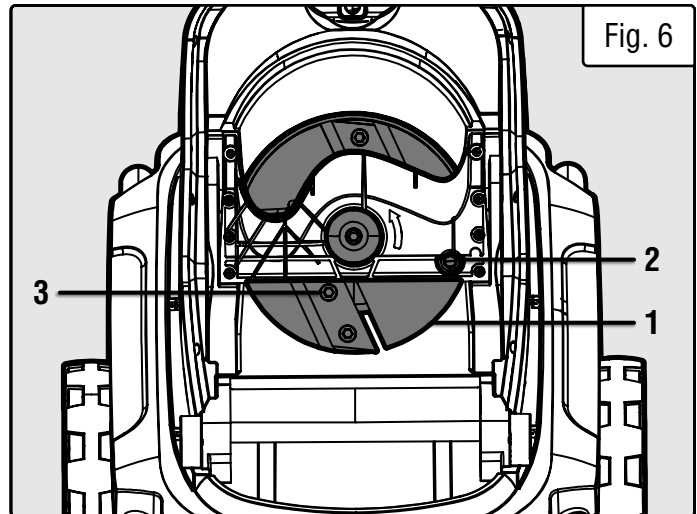

Fig. 6
3. To stop the blade plate (Fig. 6 - 1) from spinning while changing the blades, fit a screwdriver (not included) into the access hole (Fig. 6 - 2). Carefully rotate the blade plate until one of the two holes in the blade plate aligns with the access hole. Fit the screwdriver into the hole to lock the blade plate in place.
4. Use the included hex wrench to remove the two blade screws (Fig. 6 - 3) from the blade.